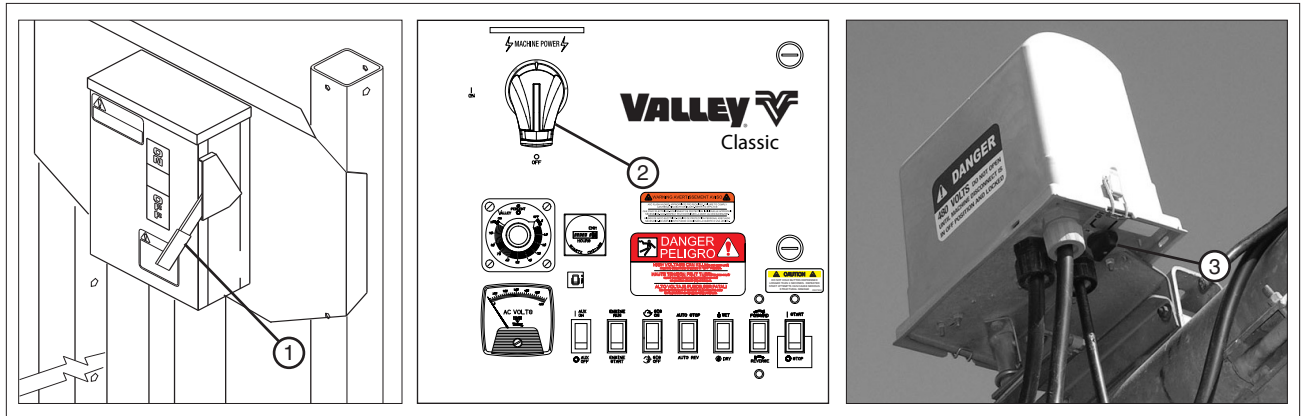

Figure 31-1 1. Main Service Disconnect Switch
- Main Service Disconnect Switch from public power to the control panel. See Figure 31-1.
- Control Panel Main Disconnect Switch. See Figure 31-1.
- Any Tower Box Disconnect Switch. See Figure 31-1.